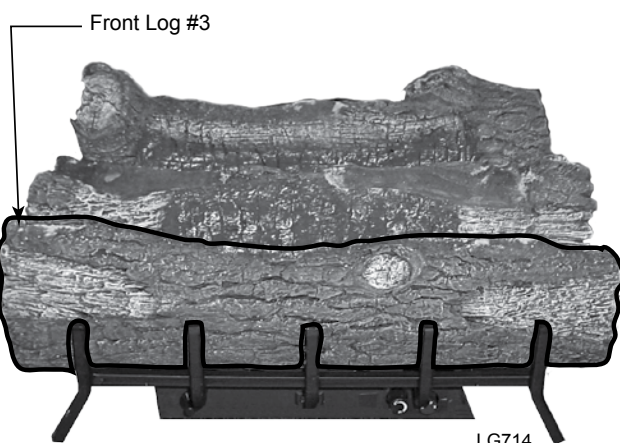

Figure 25 - Place Front Log
3. Place Front Log (#3) in between burner and grate. *Figure 25*